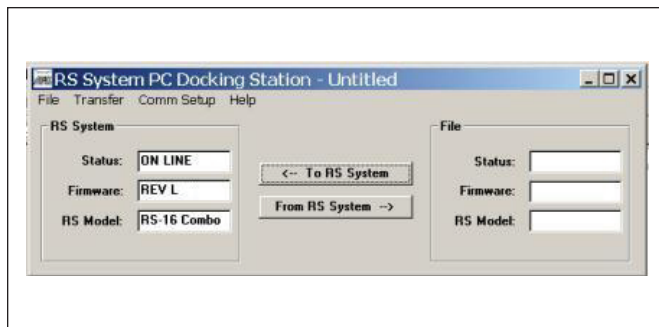
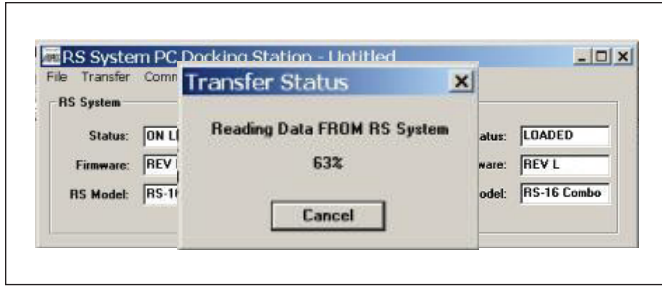

Figure 4. PC Docking Application Main Dialog Box
Figure 6. Transfer Status Dialog Box
1. On your computer, start PC Docking application. From the **Start** menu, select **Programs > Aqualink RS System Simulation > PC Dock**. Figure 4 illustrates the PC Docking application in an AquaLink RS16 combination system with firmware Revision L.
2. To read the setup data from the Power Center, click **From RS System** (see Figure 4). The setup data will take approximately 30 seconds to load. The Transfer Status dialog box opens during the data transfer (see Figure 6).